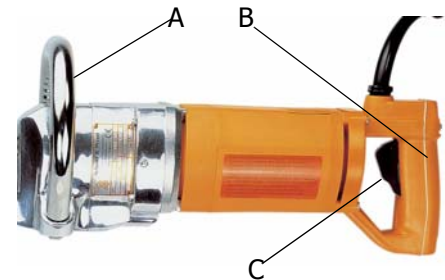

Figure 2: Switch operation
- Hold the machine firmly at the supporting handle (A) and switch handle (B).
- To switch on, press switch (C) with the index and middle fingers (see Fig. 2)